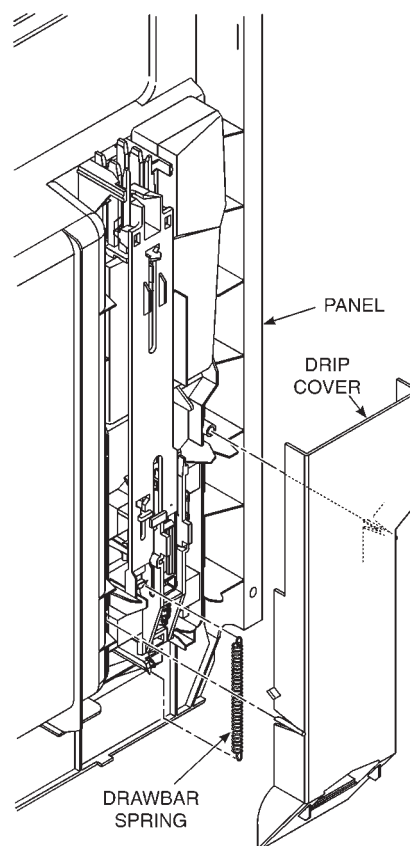

Fig. 2-15
1. Remove the drawbar spring. (Fig. 2-15)